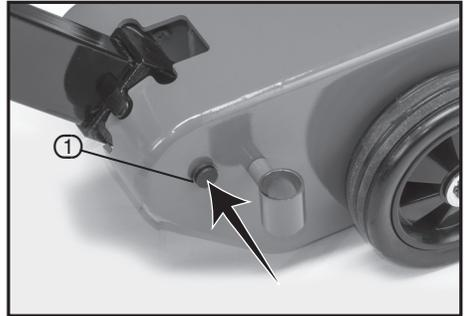

FIG.1
6.1 HANDLE ASSEMBLY FIG 1 & 2.